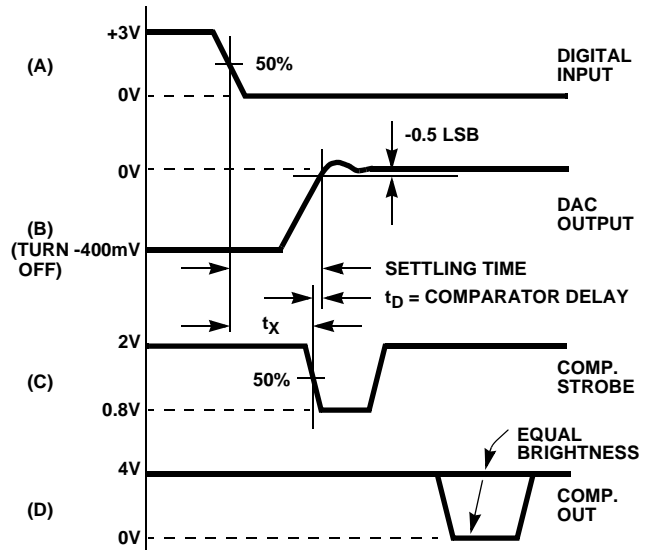

FIGURE 3B.
As shown in Figure 3B, settling time equals  $t_x$  plus the comparator delay ( $t_D = 15ns$ ). To measure  $t_x$ :
- Adjust the  $V_{LSB}$  supply for 50% triggering at COMPARATOR OUT. This is indicated by traces of equal brightness on the oscilloscope display as shown in Figure 3B. Note DVM reading.
- Switch the LSB to Pulse (P).
- Measure  $t_x$  from scope as shown in Figure 3B. Settling time equals  $t_x + t_D$ , i.e.,  $t_x + 15ns$ .